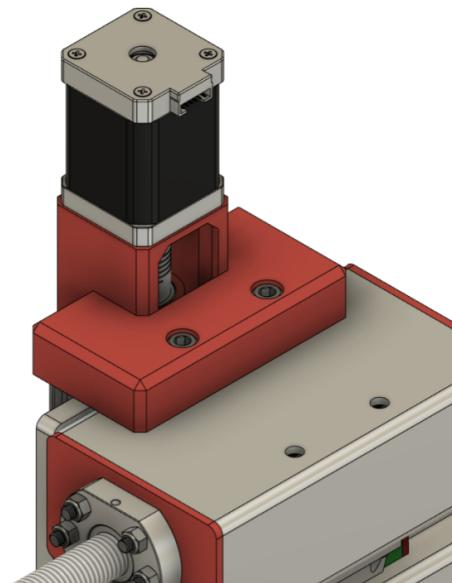

Figure 13.7
8. Secure the mount to the Z-Axis assembly with two M6x30mm bolts as shown in Figure 13.7.